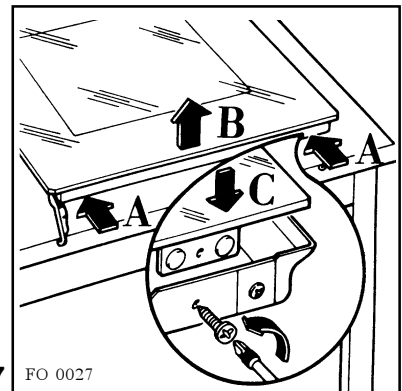

Fig. 7 FO 0027
- unscrew the two screws marked with lett. **A** fig.7;